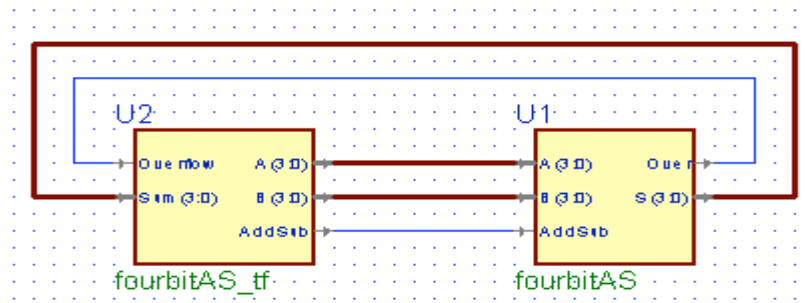

Figure 9
1. Once you have finished connecting the test fixture block symbol to your design’s block symbol, save, run the check diagram tool, and compile the new schematic. Your schematic should look like Figure 9.